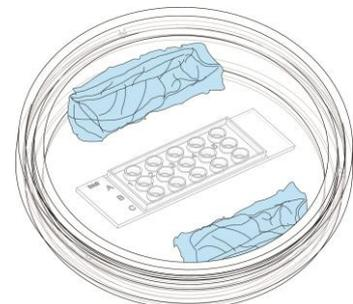

Figure 2: Humid chamber.
3. Place the slides into humidifying chambers (petri dish with a wet sterile tissue, see Figure 2) and incubate them at 37°C until the cells have attached